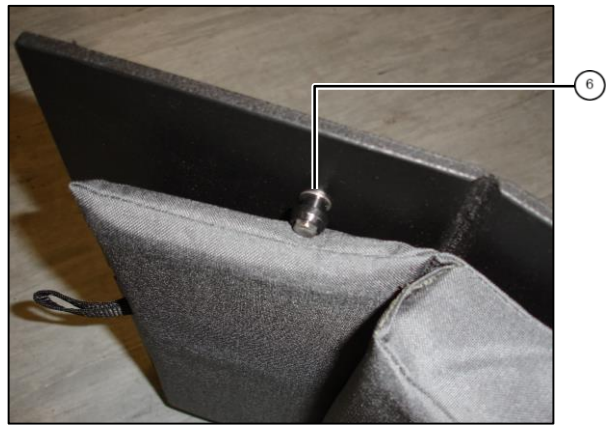

fig.2: single seat
4. Install 2 plastic bolts ⑥ at single seat with countersunk screws M5x20, washers M8, washer M5 and cap nuts (fig. 2).